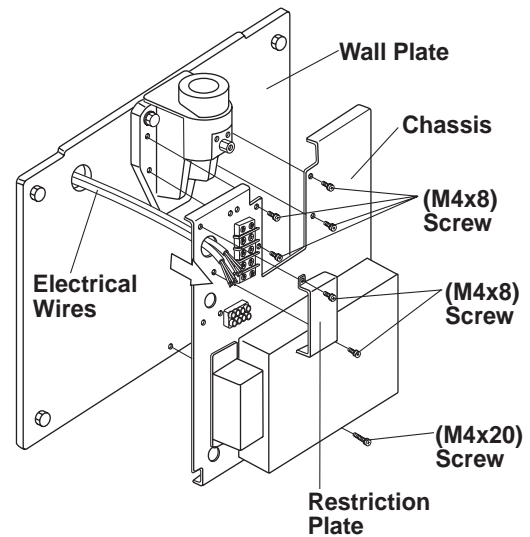

Fig.3-3 Attaching Chassis to Wall Plate
1. Remove the restriction plate over the terminal blocks by taking out two (M 4 x 8mm) screws. **(Fig.3-3)**
2. Route electrical interconnecting wires through the access hole on chassis and mount the chassis on the wall plate with four (M4 x 8mm) screws and one (M4 x 20mm) screw. **(Fig.3-3)**
5. Reattach the restriction plate. **(Fig.3-3)**